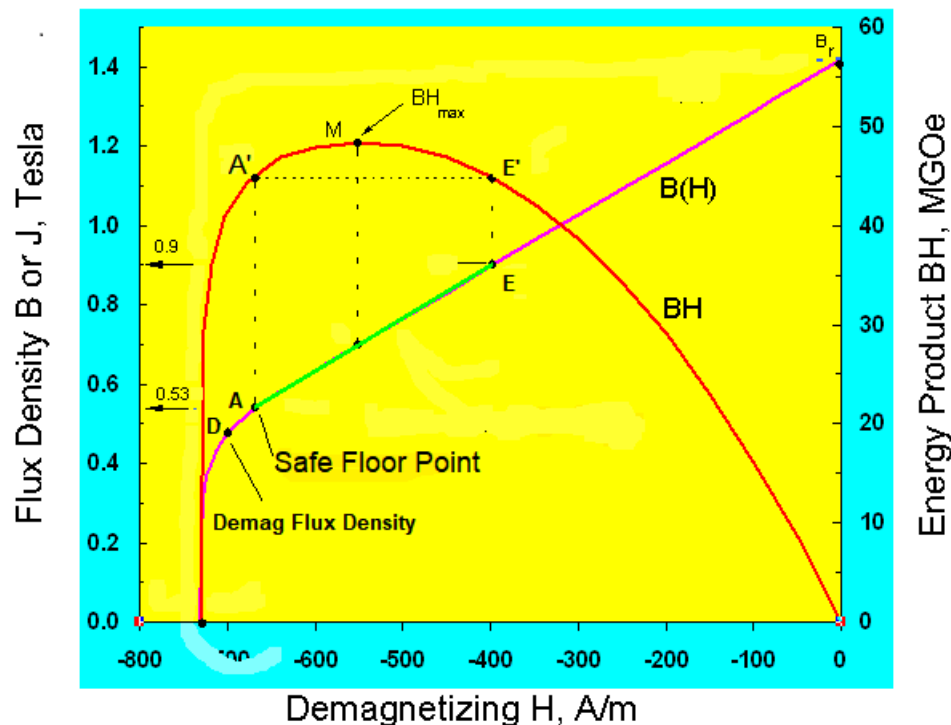

Figure 9. The energy product curve can be used to minimize the cost of a magnet.
A BH(H) curve can help you achieve a minimal magnet cost design. Fig. 9 shows BH(H) curve for an N52 magnet at 40 C. What working point E minimizes its cost without demagnetization?
Fig. 9's BH(H) curve shows max energy $BH_{max} = 48.4$ MGOe occurs at M. Its B(H) curve shows that its Demag Flux Density $B_k = 0.44$ T. Allowing a 20% safety margin establishes a **Safe Floor Point A (0.53T)**. The magnet should always operate above point A to prevent demagnetization.